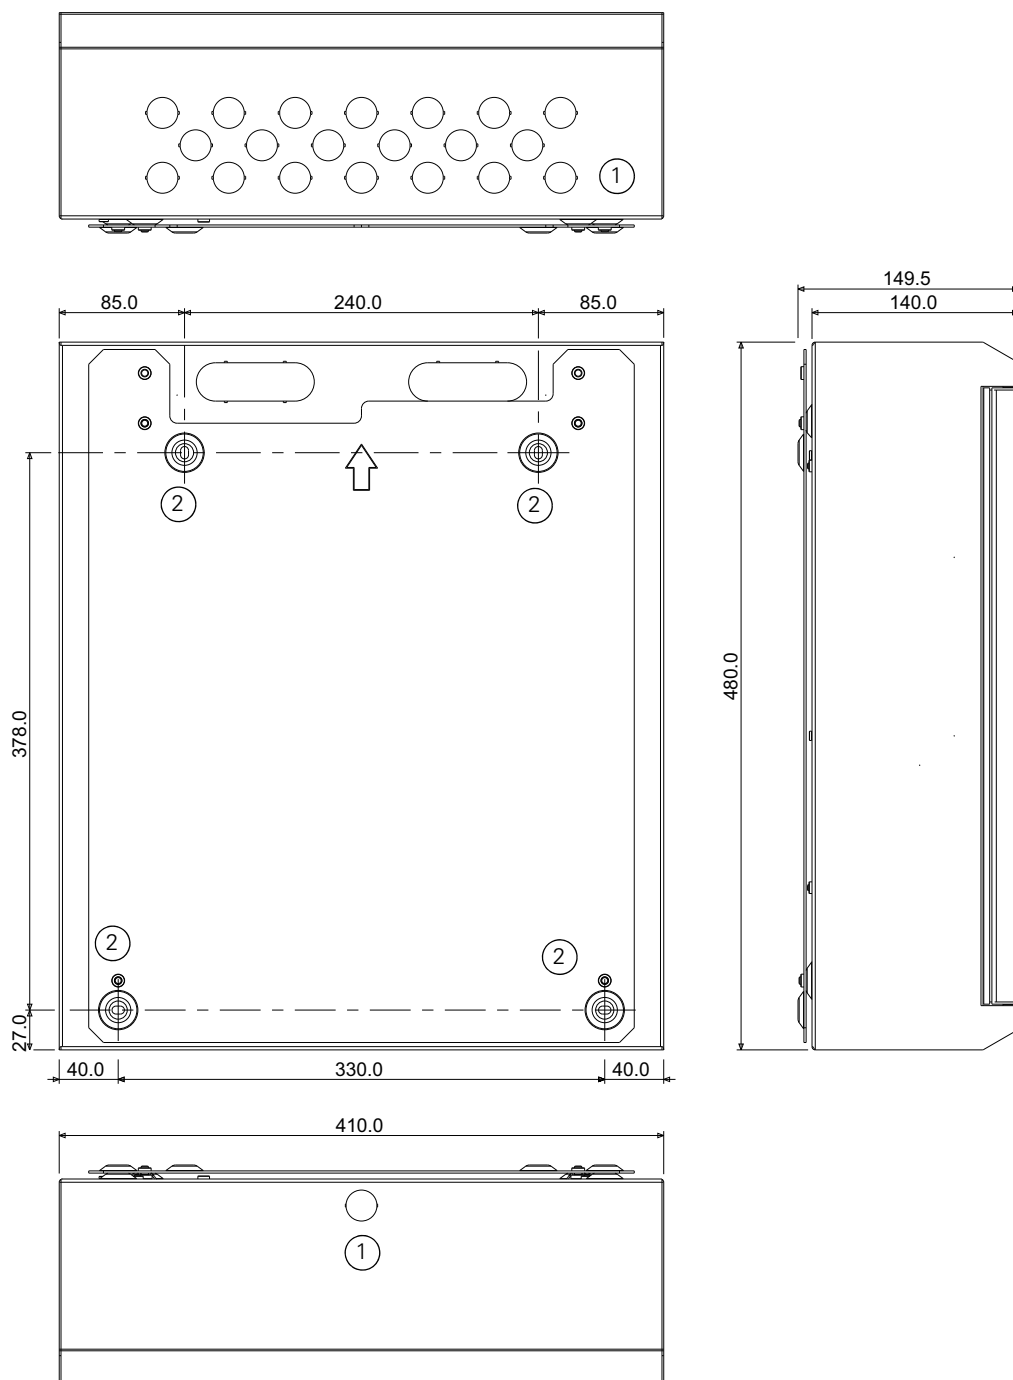

Fig. 14: FireClass Single Loop Panel Shallow and FC8AS FireClass AC Repeater - Overall and Fixing Dimensions Knockouts  $\varnothing 20$  mm (13x)
- Hold the mounting plate up to the wall and mark on the wall a position for the upper mounting hole. Make sure that the plate is the right way up. See the arrow pointing upwards on the mounting plate. Refer to Fig. 14.